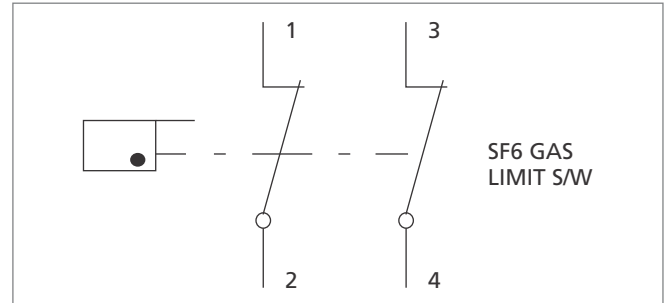

Figure 3.3.2 - Normally closed switching contacts
- The Gas Density Monitor is available with maximum two magnetic snap action switching contacts. These contacts can be normally close (NC) or normally open (NO).
- Let us consider switching contacts are normally closed (NC). The terminal number details are as shown in figure 3.3.2 :